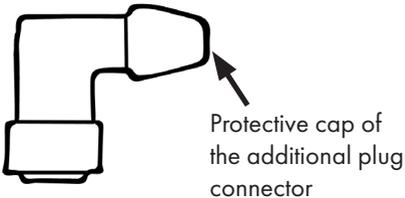

Figure 36
- Take the additional spark plug connector and remove the protective cap from the connector, Fig. 36.